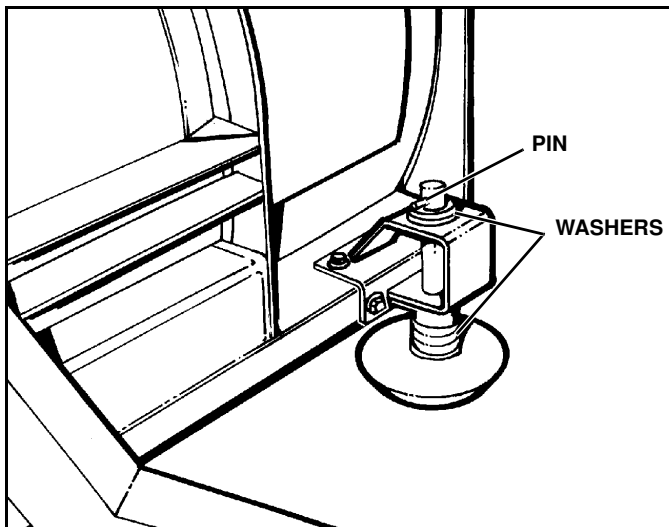

Figure 1-22
4. Adjust shoe assemblies by removing Shoe Mounting Pin and adding or subtracting washers on the top or bottom of the shoe mounting bracket. (See Figure 1-22)